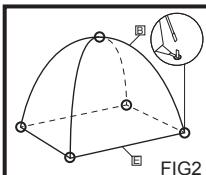

FIG2
3. Stand the inner tent <E> up and push the ends of the poles into the iron bars (which are on the each corner of the inner tent <E>). (FIG2)
4. Fasten the roof of the inner tent <E> onto the pole junction with the sewn-on tie. (FIG2)